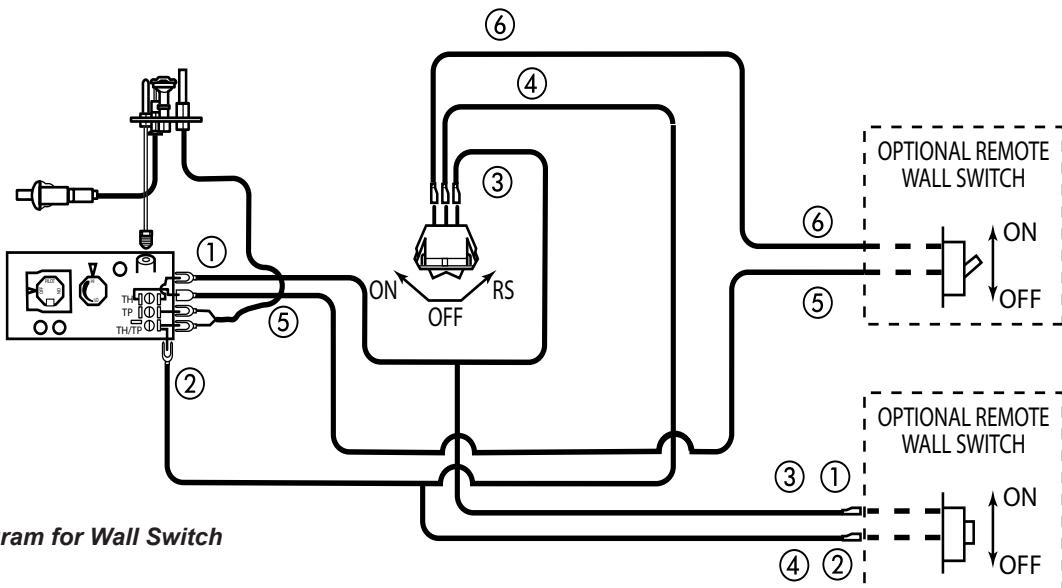

Figure 48 -
A remote wall switch and up to fifteen (15) feet of 18 Ga. wire may be used with this appliance. Attach the wall switch in a junction box at the desired location on the wall. *Figure 48.* Do not extend beyond the wall switch wire length provided.